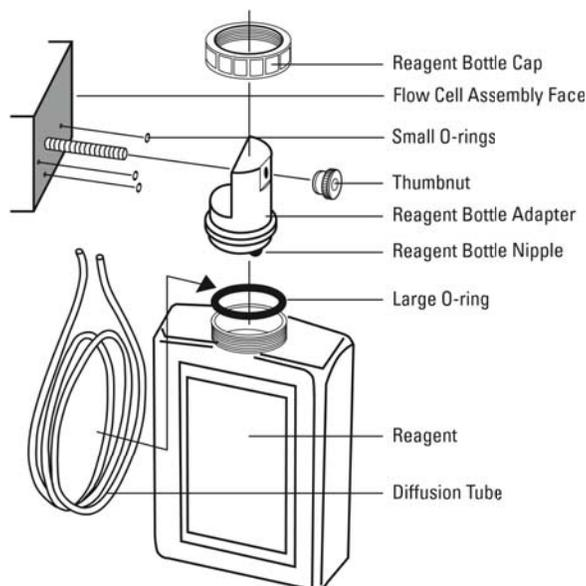

Figure 13: Reagent Bottle Assembly
5. Replace all three O-rings on the face of the reagent manifold. Refer to Figure 13.
6. Slide the reagent bottle adapter assembly over the threaded screw of the reagent manifold. Refer to Figure 13.